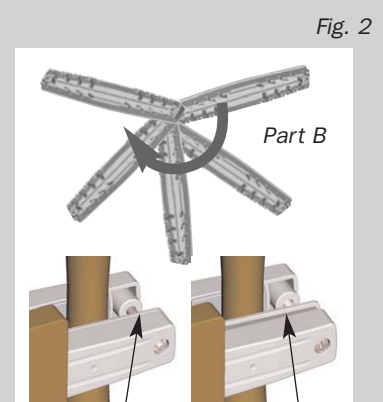

Fig. 2
4. Insert the Back Piece of the Front Clamps, reversing to the correct side so they mount with the proper thickness for your installation. (Fig. 2).